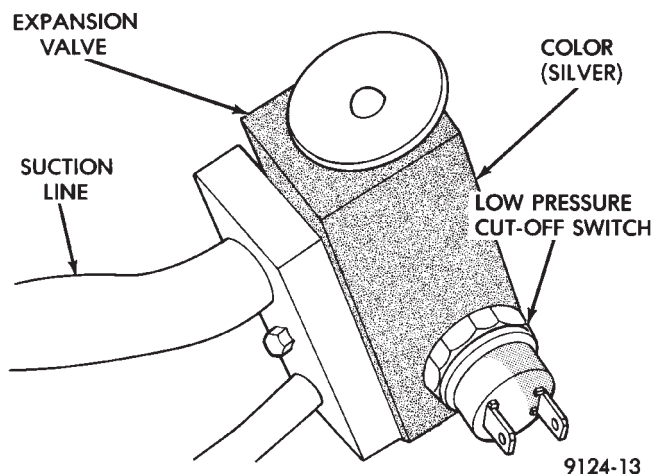

Fig. 5 Low Pressure Cut-Off Switch
(2) Disconnect and plug the vacuum line at the water control valve.
(3) Disconnect wire connector at low pressure cut-off switch (Fig. 5). Using a jumper wire, jump terminals inside wire connector boot.